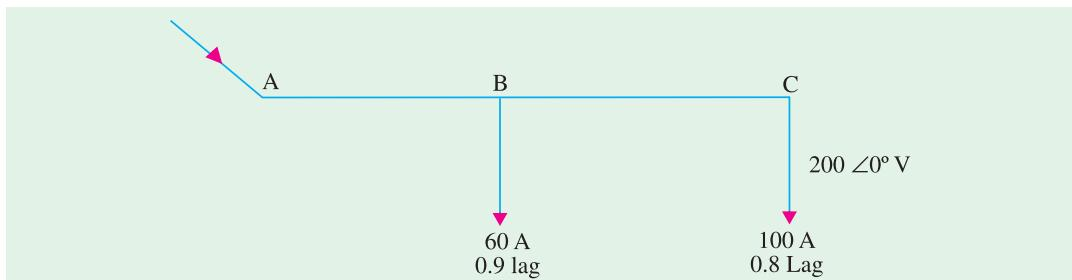

Fig. 41.51
**Solution.** Fig. 41.51 shows the feeder AC 1 km long having B as its mid-point and A as its sending-end point.
These are shown in Fig. 41.51 (a). The reactive or wattless components are